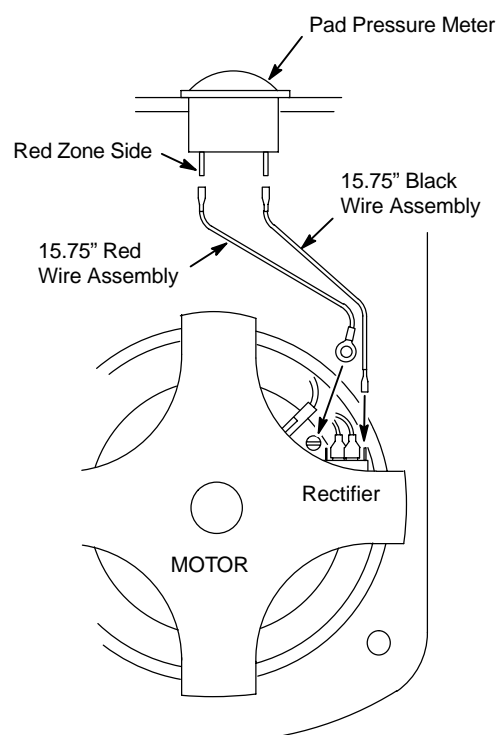

Fig. 3 MACHINE FRONT
6. Remove wires that are connected to pad pressure meter and replace them with new wire assemblies as shown (Figure 3).